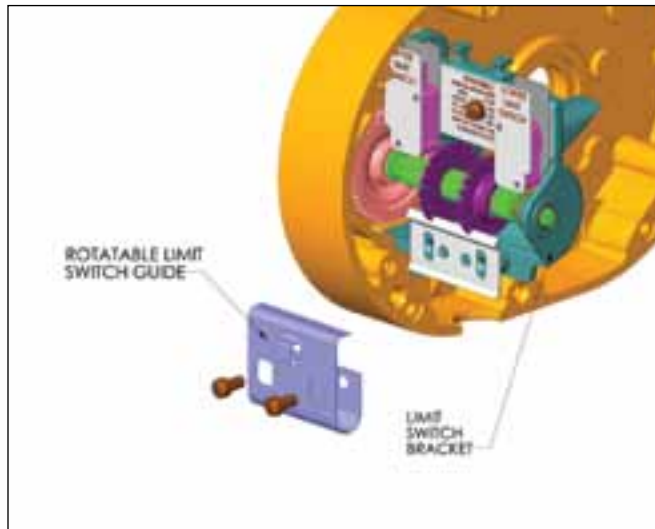

Figure 18A. Rotatable Limit Switches, Models B, C & F
4. Refer to Figure 18A and 19A and assemble the limit switch guide plate to the limit switch bracket. Secure using the 2 screws.